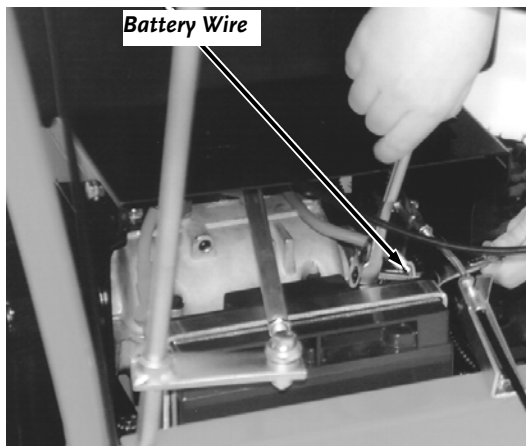

Figure 6
1. Connect the negative wire to the negative terminal on the Battery (**Figure 6**).